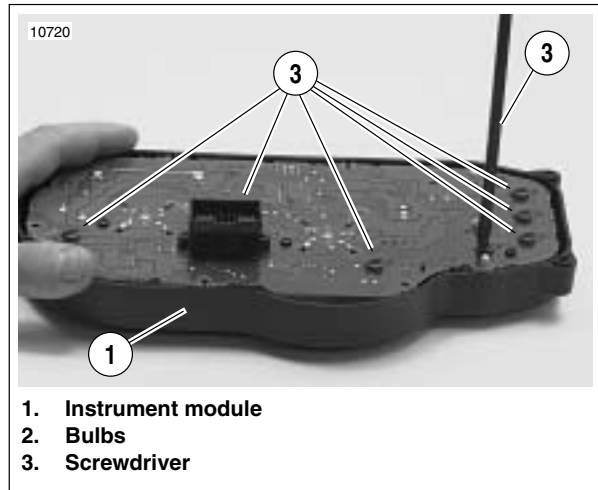

Figure 7-62. Bulb Replacement for Instrument Module
3. See Figure 7-62. Insert screwdriver blade into the slot on the back of the bulb to be replaced and lightly turn counterclockwise and remove bulb.